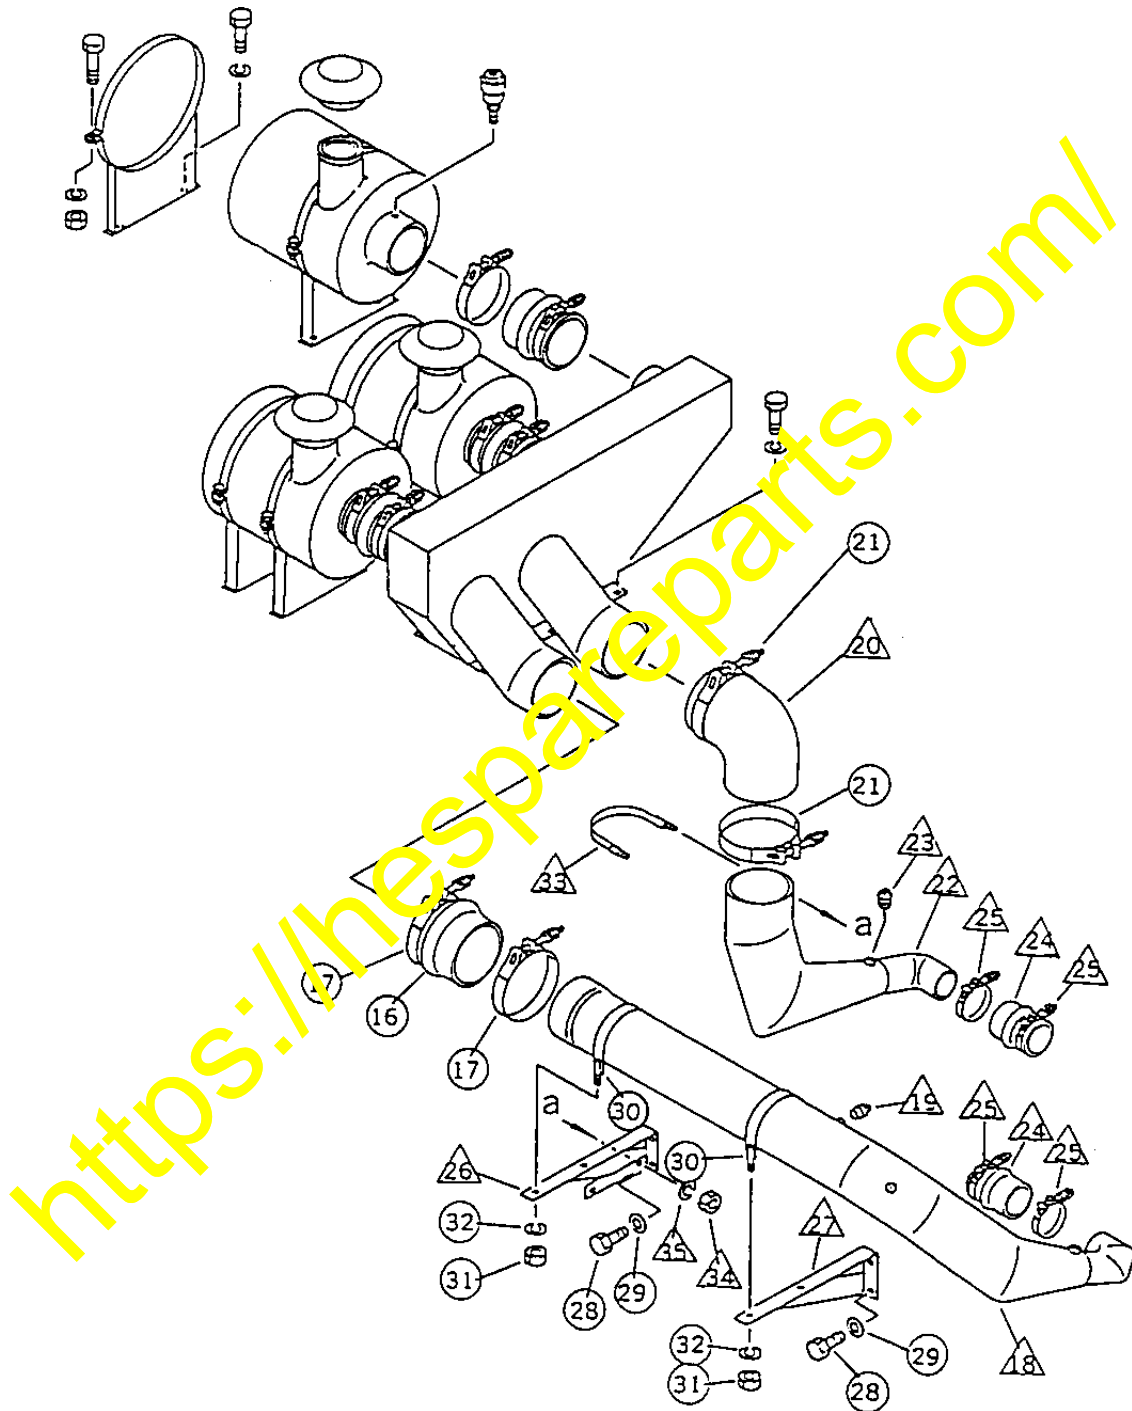

Fig. 10
- (1) Remove the existing air intake piping. (See Fig. 10)